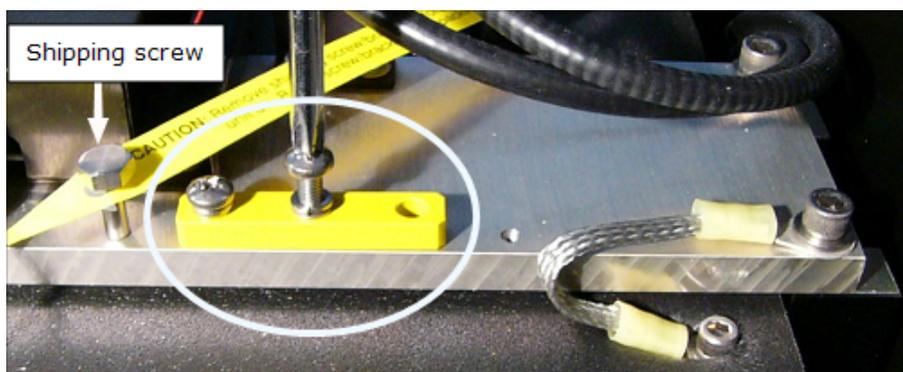

Figure 2-7: Carrier shipping screw and optic arm shipping block stored on the base plate
3. Use the supplied wrench to remove the carrier shipping screw. Store the screw on the base plate as shown in Figure 2-7. Pull the shipping tube off the carrier and place it in the storage pocket. Attach the pocket to the back of the reader.